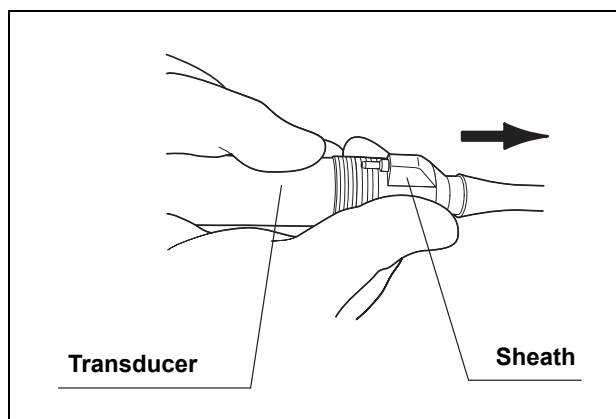

Figure 7.12
2. While holding both the sheath and transducer, pull the sheath out from the transducer (see Figure 7.12).